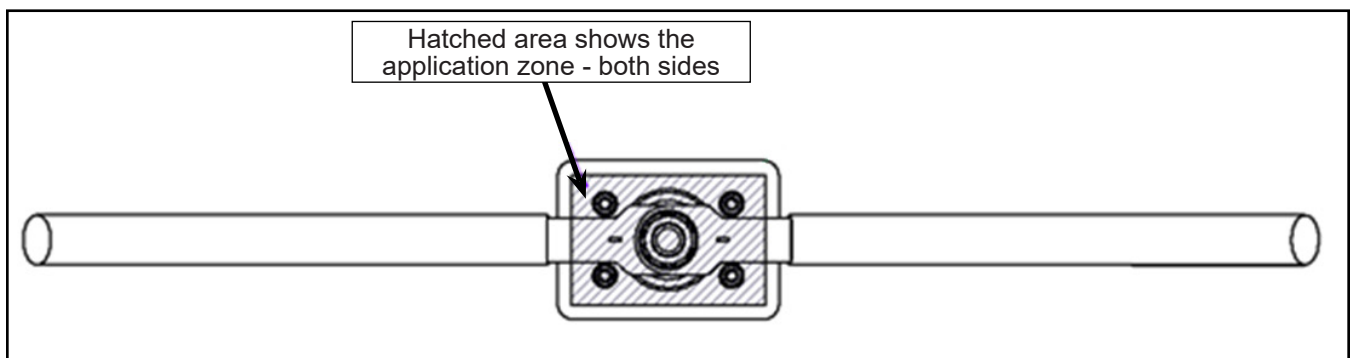

Figure 10 - Junction Block Assembly Showing Corrosion Preventative Product Application Area on Both Sides
- 2.3. Vaporize/apply the NPCHM00023 cleaner or similar product (CRC Citrus Degreaser or QD Contact Cleaner) on the surfaces to be covered (see Figure 10), and with a dry cloth clean the surface to remove any unwanted particle and/or grease deposits. Allow the product to evaporate completely. The use of a nylon brush is permitted to clean the surfaces.
- 2.4. After the surface cleaning, corrosion preventative product **MUST** be re-applied on both sides of the junction block (see Figure 10).